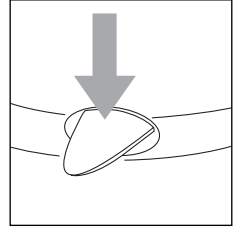

Fig.4
- Press the ON/OFF switch down (fig.4) to switch the kettle on.